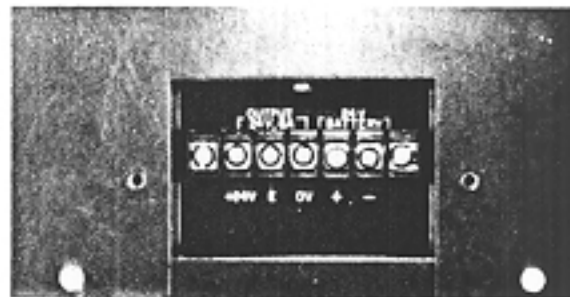

FIGURE 9
02.12 Remove the terminal strip cover from the **OUTPUT/24V, 8A-24V/BATTERY** terminals (Figure 9).